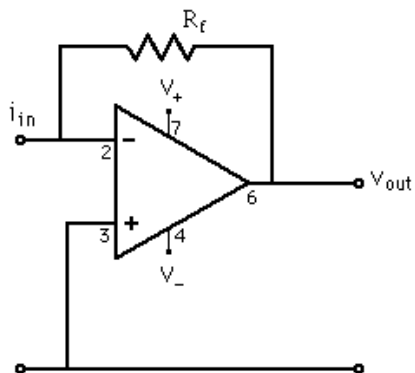

Figure 1: Op-amp circuit: current to voltage converter.
2. As mentioned above, you will use an op-amp circuit to measure current. Show that for the circuit pictured in Fig. 1 the current is given by  $i_{in} = -V_{out}/R_f$ .